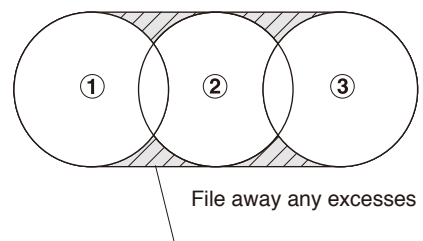

Fig. 24
Drill oblong hole in the order of ①, ②, ③. For the steps ② and ③, use manual feed and take care so that the cutter may not be fed into the workpiece with too much force. If automatic feed is used, damage to the cutter or unexpected accident may result. Use a file to take off any sock that is left unmachined. Spacing between each step of drilling operations should be so arranged that the Pilot Pin will always hit the sold material yet to be machined. (Fig.24)